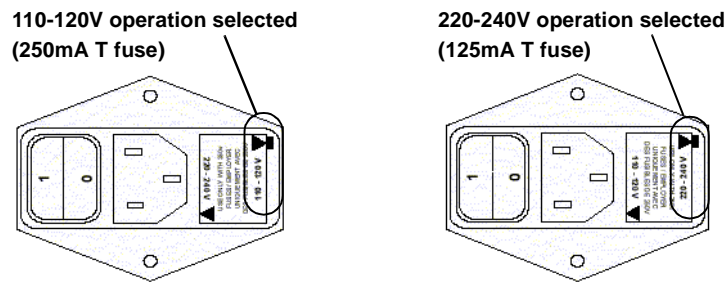

Figure 53 Replacing the Fuse
- 2 Install the correct fuse in the “selected” position as shown in Figure 53.